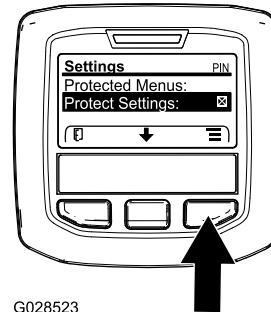

Figure 26
1. From the MAIN MENU, use the center button to scroll down to the SETTINGS MENU and press the right button (Figure 26).